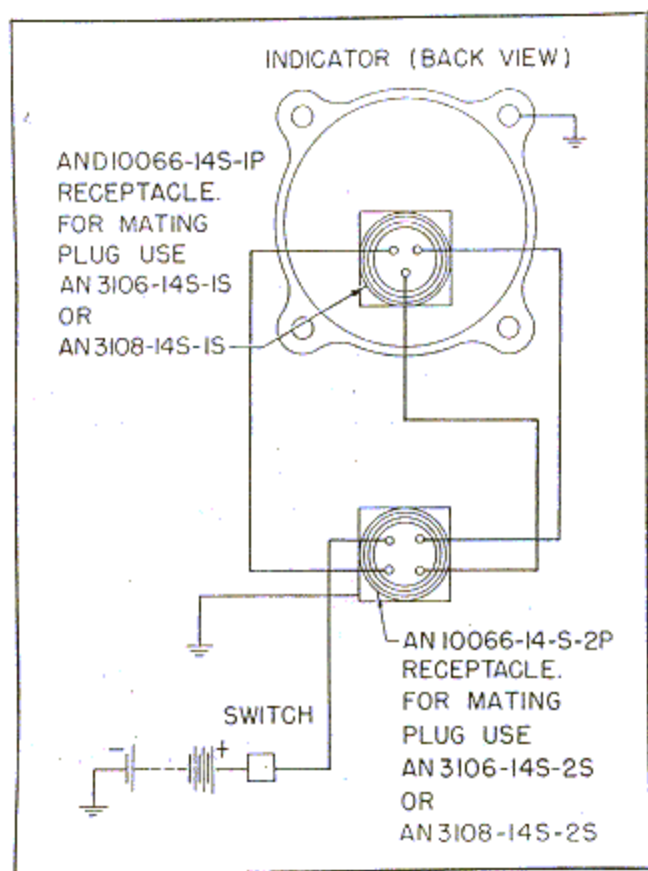

Figure 209—Fuel Level Gage Wiring Diagram
(a) FUSELAGE TANK EQUIPMENT.—The fuselage tank is equipped with General Electric DC Selsyn fuel level equipment consisting of an 8DJ11LAT model indicator (weight 0.355 pound) and an 8TJ13LAH model transmitter (weight 1.2 pound). This 24-volt equipment is adapted to the basic operating system, known as the three-wire system, which requires the use of three leads to connect the transmitter to the indicator. (See figures 209 and 260.)
- c. Attach wires as shown on the wiring diagram (figure 209).
- b. Connect the transmitter and the indicator in accordance with the external connection diagram, figure 209.
- c. Loosen the four screws on top of the transmitting element assembly and rotate the adjusting disc until the pointer reads zero. Tighten the four screws. Attach external wires as shown on figure 209.